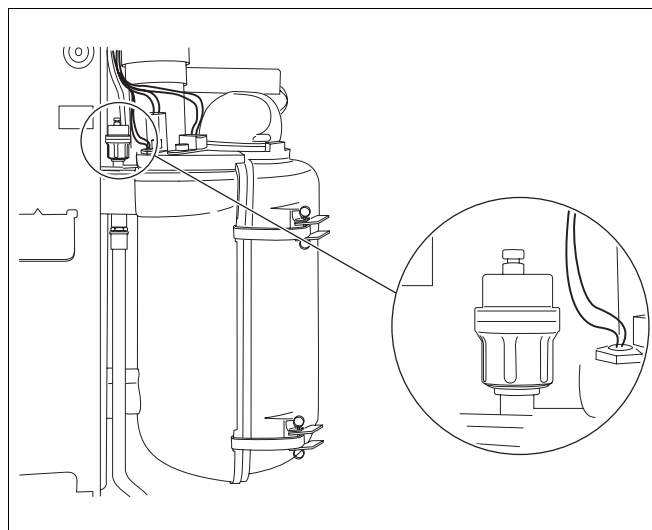

Fig. 7 Automatic air vent unit
- Open the cap on the automatic vent unit (fig. 7) by one turn to allow any residual air to escape.